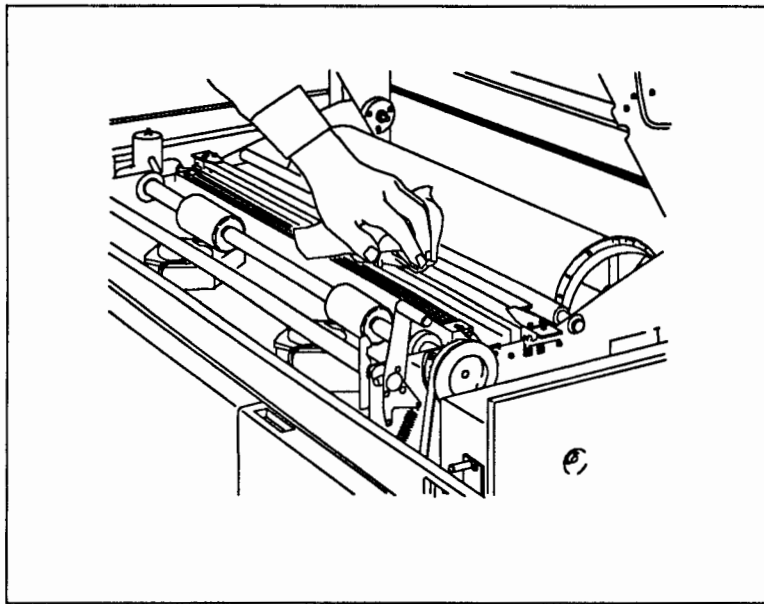

Figure 2-39. Head Cleaning
- b. Using the wipe, apply the polish to the entire length of the writing head. See Figure 2-39.